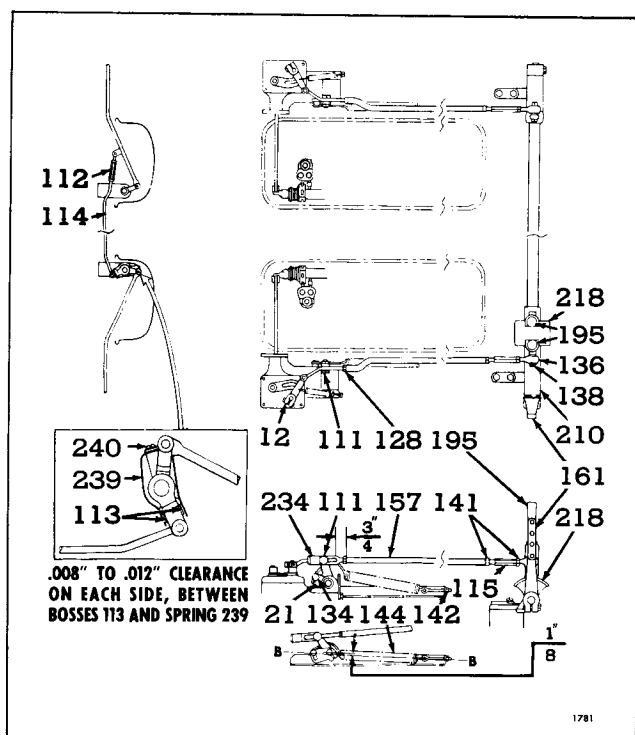
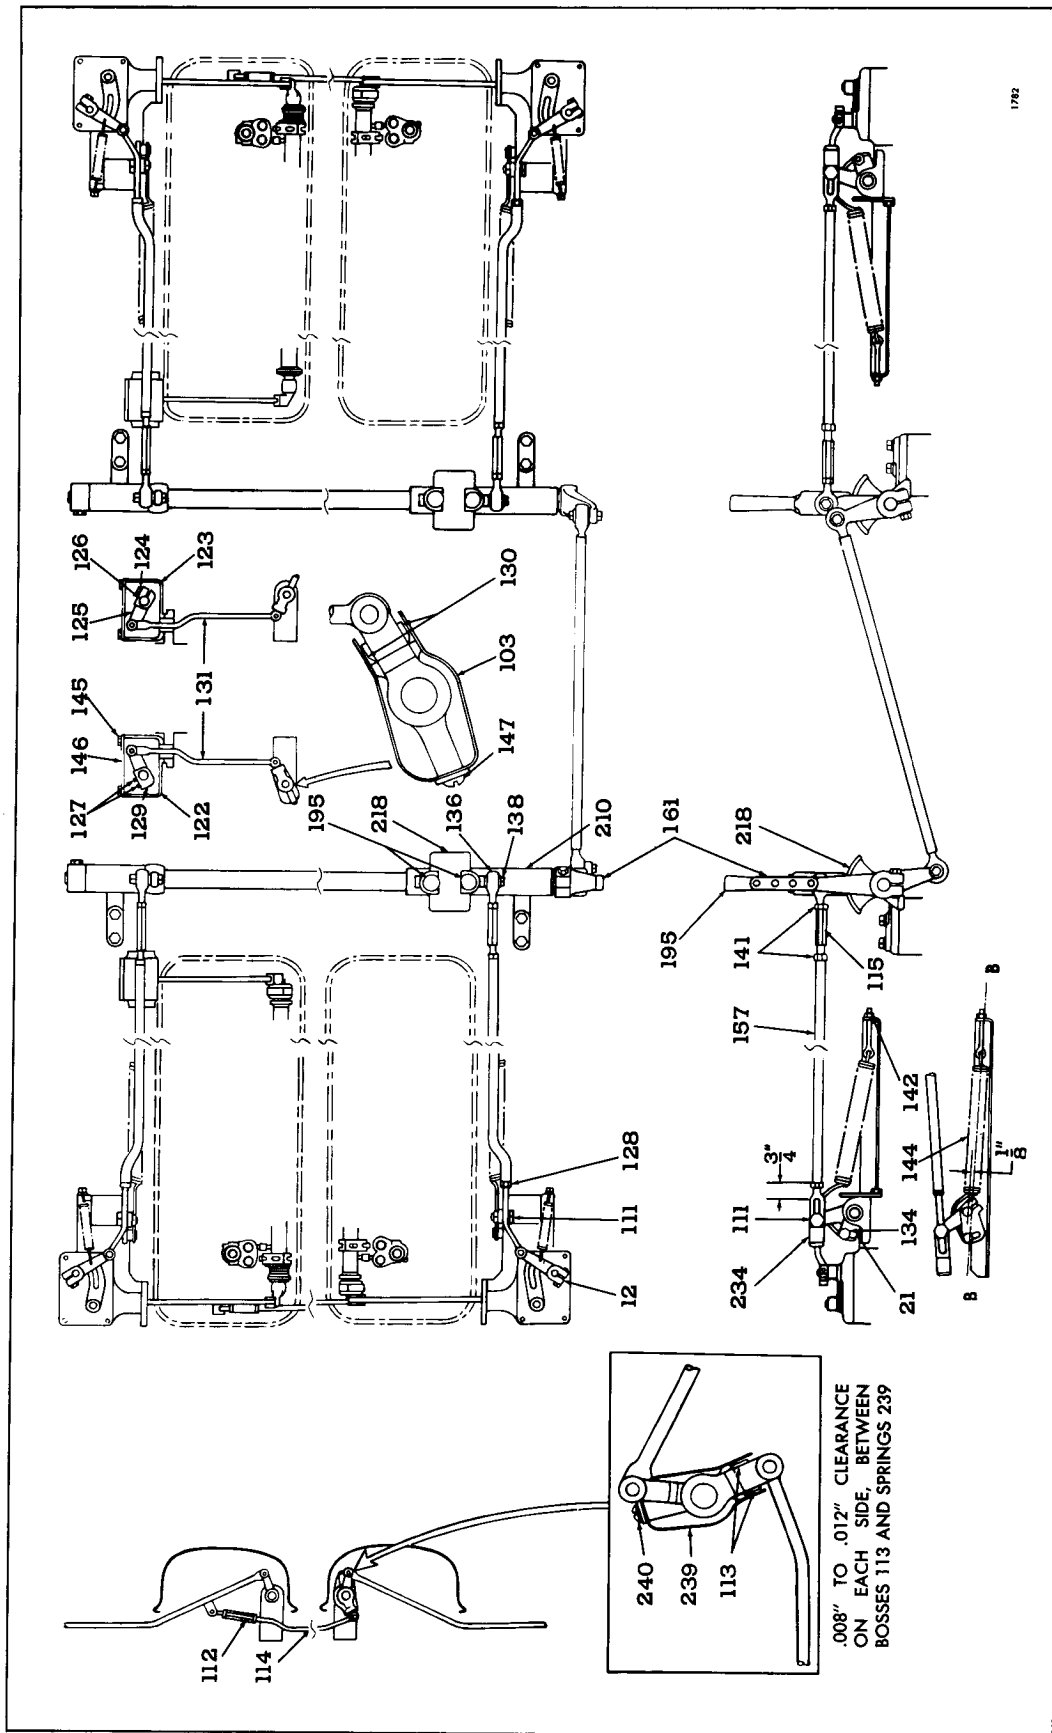

Fig. 4 - Diagram of Throttle Control Linkage for Twin Units with Variable Speed Mechanical Governors
Fig. 5 - Diagram of Throttle Control Linkage for Quad Units with Variable Speed Governors
The individual engine tune-up is very important in the adjustment of twin and quad engine units as the engines must be closely synchronized to enable each to carry its full share of the load. Therefore, disconnect the control rods (157) from control levers (21) and cross link equalizer spring (239) from cross link (114), see Fig. 4. On quad units, loosen screw (147), Fig. 5, and remove the master control equalizer spring (103). Then with engines stopped and valve covers removed:
1. Check the link (234), Figs. 4 and 5, on each engine. Be sure the bolt (111) is just touching the end of link in idle position.
3. Move the master throttle control lever (161), Figs. 4 and 5, to the FULL FUEL position.
4. Make sure each control lever (21) is in the FULL FUEL position (all the way back).
5. If the governor control levers are not in the FULL FUEL position, loosen the two turnbuckle nuts (141) and adjust turnbuckles (115) until all levers are in their FULL FUEL position.
6. Tighten the turnbuckle lock nuts (141), and check the position of each governor lever. Levers must be all the way back. Be careful not to "cock" the end bearing (136).
- Set the governor booster spring pin (134) 1/8" below over-center line B-B, as shown in Figs. 4 and 5.
- Refer to Fig. 4 and loosen booster spring retaining nut on speed control lever (21). Loosen nut and lock nut on eyebolt at opposite side of spring (144).
- Move bolt up or down in slot of lever (21) to a position that will allow speed control lever to move from the FULL FUEL position to the IDLE position. Hold bolt and tighten spring retaining nut.
- Connect each of the governor control rods (157) to lever (21).
- Set the gap between the end of link (234) and governor control lever (21) at 1/16" to 1/8" by adjusting the lever (21) on its shaft. While setting the gap, the governor lever must be in the IDLE position, and the forward end of the slot in link (234) must be contacting the lever-to-link bolt (111).
- Secure the master throttle control lever (161) in the FULL FUEL position, then replace equalizer spring (239) and secure with screw (240).
- Loosen the lock nut (141) at turnbuckle (112). Adjust the turnbuckle until there is equal clearance between each leg of the equalizer spring (239) and lower boss (113), approximately .010" clearance on each side.
- Tighten turnbuckle lock nut (141) and recheck clearance. Readjust if necessary.
- Lubricate the link joints of the equalizer linkage with a few drops of engine oil. Move the master throttle control lever (161) back and forth to check for binding in the equalizer. Note if the equalizer link (114) rubs inside the tube. Correct any binding that may exist.
- Disengage clutches. Move master throttle control lever (161) to IDLE position and start engine.
Then adjust the master control equalizer between the front and rear engine pairs comprising the quad unit, see Fig. 5.